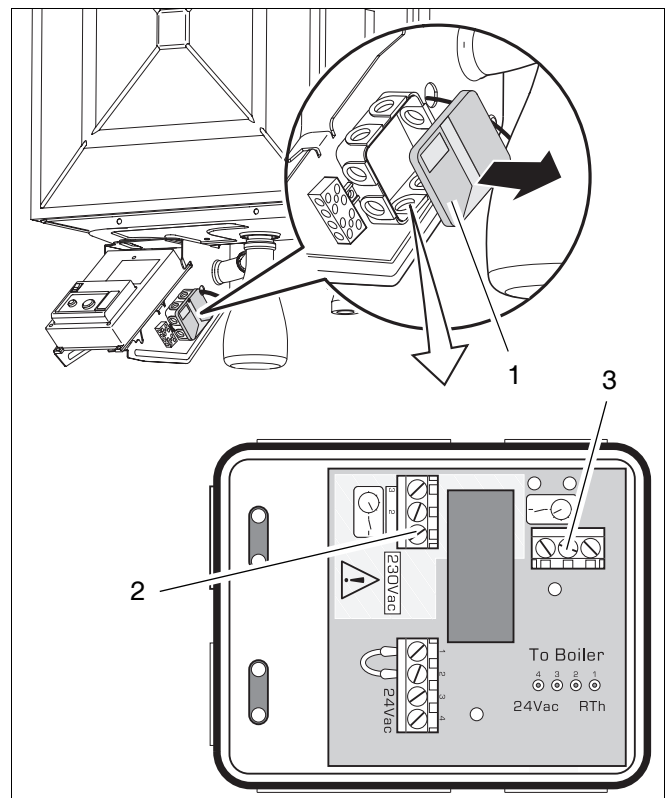

Fig. 23 Connecting the control device
- A room-temperature control device at 230V connected to the RTH converter (see fig. 23, item 2)
- ON/OFF temperature controller, volt free (see fig. 23, item 3).
- Remove the cover of the RTH converter (fig. 23, item 1).
- Connect the switch live to terminal "1" and a neutral to terminal "2" (fig. 23, item 2).
Terminal 3 (fig. 23, item 2) is not used.
- Fix the wire to terminal "1" and "2" of the volt free connection (fig. 23, item 3).